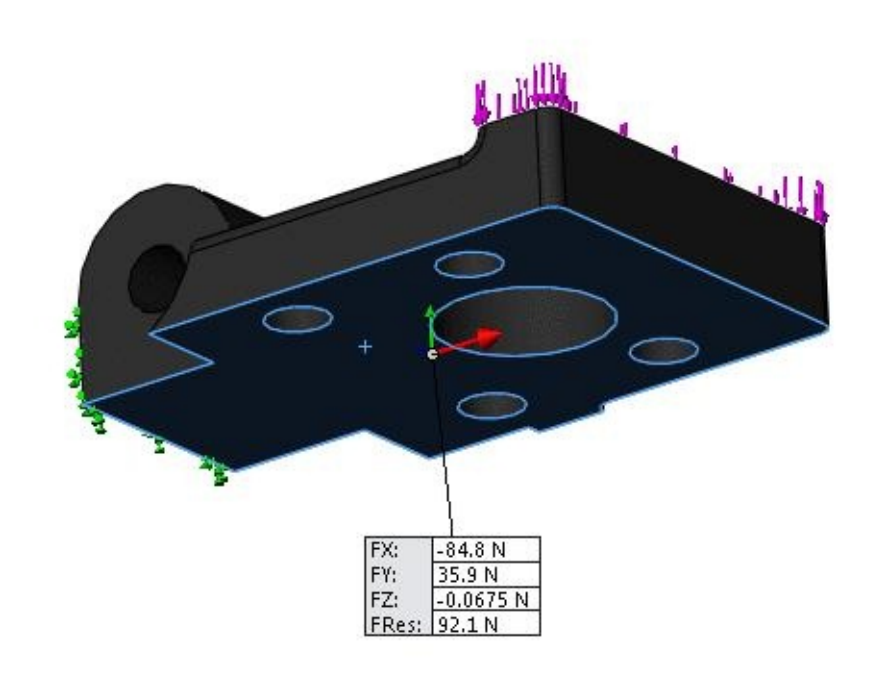

Figure-93. Preview of result force
- Click on the **Update** button from the **PropertyManager** to display the reaction forces. The box containing values of reaction forces will be displayed with the model; refer to Figure-93.